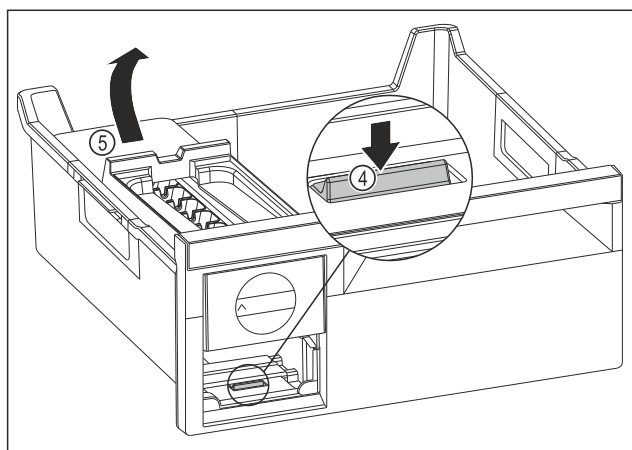

Fig. 145
- Removing the EasyTwist-Ice body: Use your finger to push the tab Fig. 145 (4) down and use your other hand to lift the EasyTwist-Ice body Fig. 145 (5) from behind at the same time.